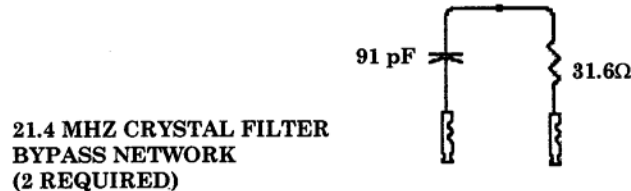
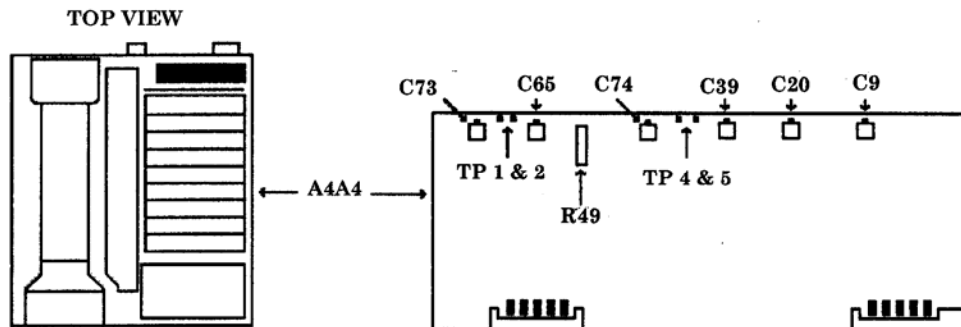
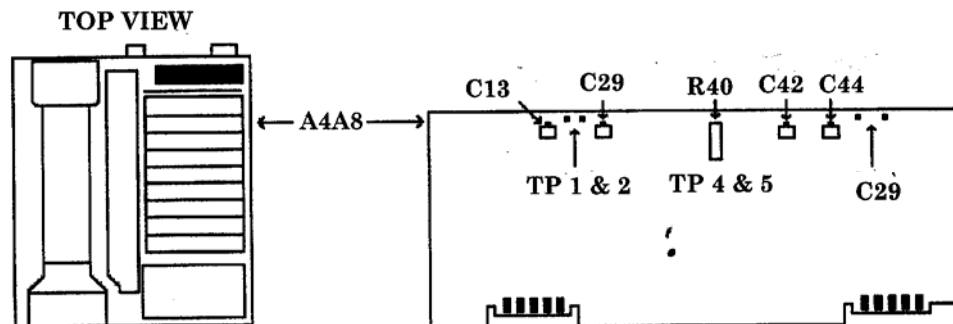

Figure 18. 21.4 MHz filter.
Figure 19. A4A4 test points.
Figure 20. A4A8 board.
The pictured filter (fig. 18) is required to continue with this adjustment routine.
(73) Press TI keys as listed in (a) through (e) below:
(74) Adjust TI **DATA** knob to position trace at (or just below) reference level (top) graticule line.
(75) Connect 21.4 MHZ CRYSTAL FILTER BYPASS NETWORK(S) (fig. 18) between A4A4TP1 and A4A4TP2 and between A4A4TP4 and A4A4TP5 (fig. 19).
(76) Adjust A4A4C20 (fig. 19) to center signal on center vertical graticule line.
(77) Adjust A4A4C9 (fig. 19) for best symmetry of signal.
(78) Remove 21.4 MHZ CRYSTAL FILTER BYPASS NETWORK(S) (fig. 18) from between A4A4TP4 and A4A4TP5 (fig. 19).
(79) Adjust A4A4C74 (fig. 19) to center signal on center vertical graticule line.
(80) Adjust A4A4C39 (fig. 19) for best symmetry of signal.
(81) Remove 21.4 MHZ CRYSTAL FILTER BYPASS NETWORK(S) (fig. 18) from between A4A4TP1 and A4A4TP2 (fig. 19).
(82) Adjust A4A4C73 (fig. 19) to center signal on center vertical graticule line.
(83) Adjust A4A4C65 (fig. 19) for best symmetry of signal.
(84) Press TI keys as listed in (a) through (c) below:
(85) Adjust A4A4R49 (fig. 19) to align markers on TI display. **MKR  $\Delta$**  level should indicate 1.00X.
(97) Press TI keys as listed in (a) through (c) below:
(98) Connect 21.4 MHz CRYSTAL FILTER BYPASS NETWORK(S) (fig. 18) between A4A8TP1 and A4A8TP2 (fig. 20).
(99) Adjust A4A8C44 (fig. 20) to center signal on center vertical graticule line.
- (100) Adjust A4A8C42 (fig. 20) for best symmetry of signal.
- (101) Remove 21.4 MHZ CRYSTAL FILTER BYPASS NETWORK(S) (fig. 18) from between A4A8TP1 and A4A8TP2 (fig. 20).
- (102) Connect 21.4 MHZ CRYSTAL FILTER BYPASS NETWORK(S) (fig. 18) between A4A8TP4 and A4A8TP5 (fig. 20).
- (103) Adjust A4A8C29 (fig. 20) to center signal on center vertical graticule line.
- (104) Adjust A4A8C13 (fig. 20) for best symmetry of signal.
- (105) Remove 21.4 MHZ CRYSTAL FILTER BYPASS NETWORK(S) (fig. 18) from between A4A8TP4 and A4A8TP5 (fig. 20).
- (106) Press TI keys as listed in (a) through (c) below:
- (107) Adjust A4A8R40 (fig. 20) to align markers on display. **MKR LVL** should indicate 1.00X.
- (108) Press TI **2-22 GHz** key.
- (109) Set attenuators for 25 dB.
- (110) Press TI keys as listed in (a) through (h) below: